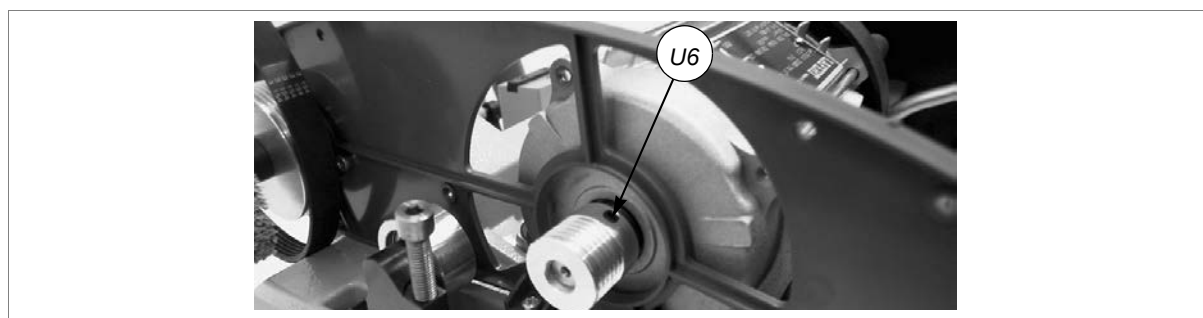

Fig. 47
- 13) Loosen the grub screw (U6) on the motor pulley (fig.47). Remove the pulley and fit to the new motor. Secure by tightening the grub screw (U6).